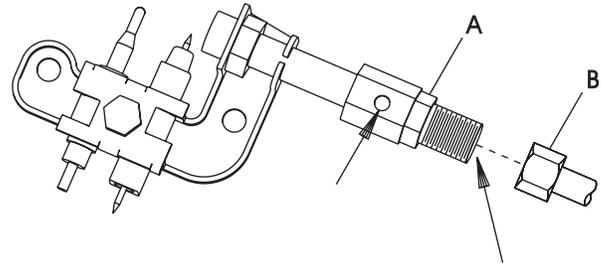

Figure 12
Oxygen Depletion Sensor Pilot (Figure 12)
2. Apply air pressure through the holes in the pilot indicated by the arrows in Figure 12. This will blow out foreign materials such as dust, lint and spider webs.
5. Disconnect pilot tubing from pilot (see Figure 12, Page 12). Grasp nut A with a wrench when removing nut B with a second wrench.
- c. Pilot is blocked from spider web or dirt - clean pilot, see Figure 12, Page 12.
- b. Pilot flame not surrounding thermocouple - clean pilot, see Figure 12, Page 12.
- a. Pilot is blocked - clean pilot, see Figure 12, Page 12.